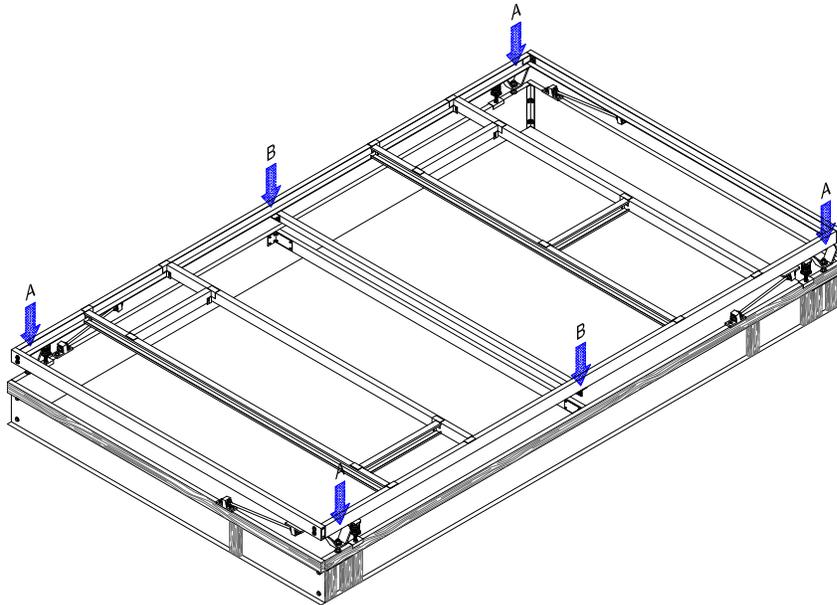
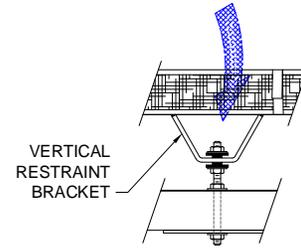

Figure 3-1
Figure 3-2
1. Lift KineticsCurb at vertical restraint in corners, points "A", see figure 3-1. Lifting strap should be placed through vertical restraint bracket, see figure 3-2. If curb length is greater than 240", additional lifting straps should be used at center of length, points "B". Do not remove shipping bands before unit is set in place on roof.